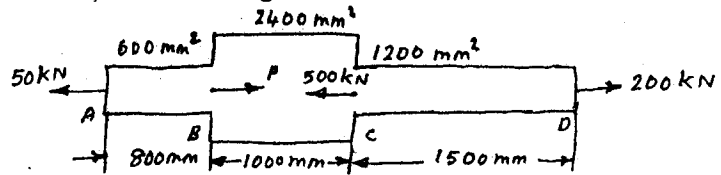

Fig.Q1(b)
b. A member ABCD is subjected to point loads as shown in fig.Q1(b), calculate i) Force P necessary for equilibrium ii) Total elongation of the bar. Take $E = 210 \text{ GN/m}^2$.